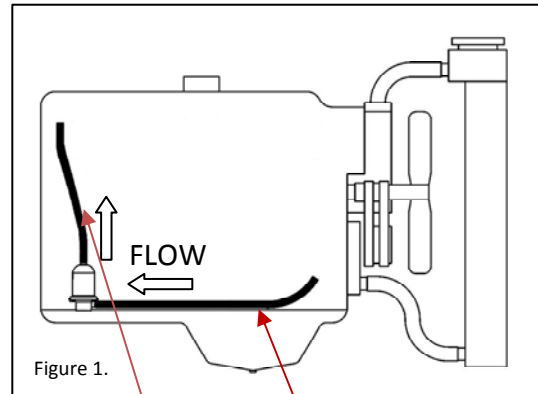

Figure 1.
Before selecting a mounting position, consider the impact of: mounting locations, heater inlet and outlet ports, engine coolant ports, as well as the routing for hoses and electrical cord. The supply hose to the heater and the return hose to the engine should preferably be on the same side of the engine and as far apart as possible with the port where coolant is returned to the engine should be higher than the port where the coolant is pulled from. This allows for maximum heat distribution throughout the engine. See Figure 1.
2. Using supplied hardware, mount heater to the engine frame or skid ensuring that the heater outlet is as close to directly below where the coolant will be returned to the engine as possible and that the heater is below the lowest point of the water jacket. See Figures 1 and 3.